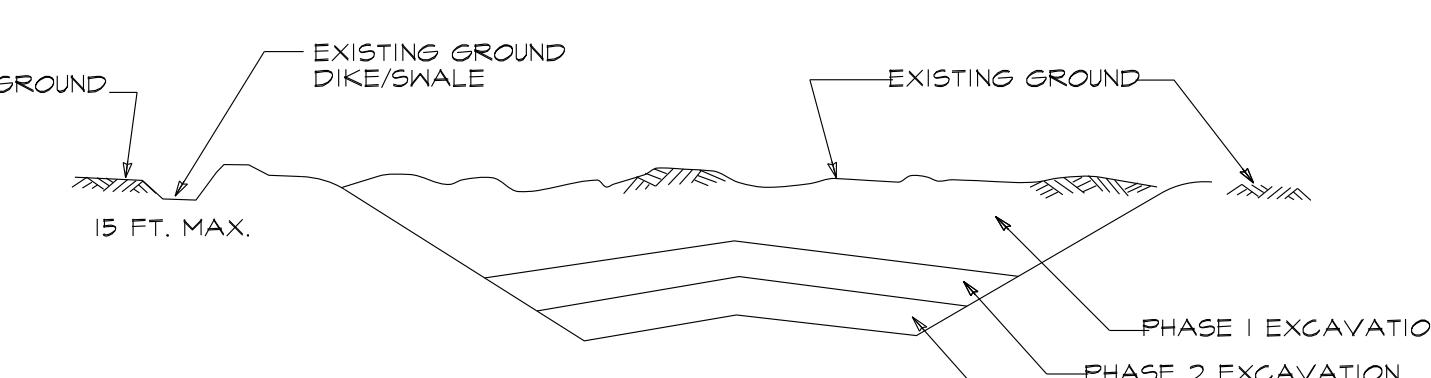

Figure B.1: Incremental Stabilization - Cut
2. CONSTRUCTION SEQUENCE EXAMPLE (REFER TO FIGURE B.1):